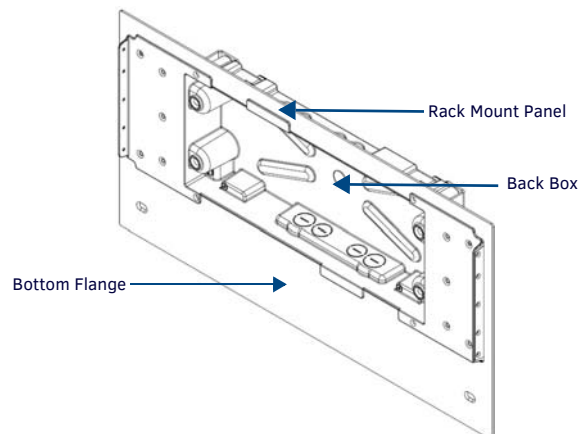

FIG. 4 FINAL ASSEMBLY OF THE MXA-RMK-20 WITH BACK BOX
4. With the Back Box anchored in the Rack Mount Panel (FIG. 4), you may now install the MXD-2000XL-PAN into the Back Box.